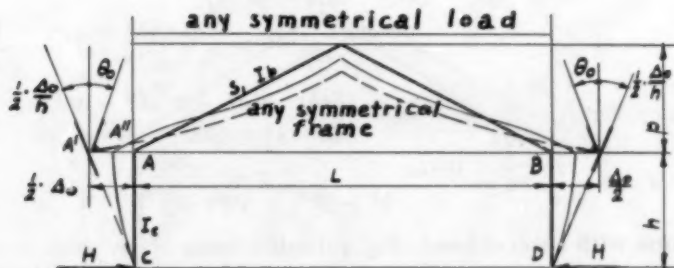

Fig. 18.
**Symmetrical Frame with Symmetrical Load.**—With the load functions and elastic constants calculated from (23), statically-indeterminate bending moments can now be obtained by setting out the equations of equilibrium of angular deformations of the joints. For a symmetrical frame of any shape with symmetrical loading (Fig. 18) the angular gaps at A and B are  $\left(\theta_0 + \frac{1}{2} \cdot \frac{\Delta_0}{h}\right)$ .
For a symmetrical pitched frame (Fig. 18) with uniformly-distributed load, the load functions from (24) are  $EI_b\theta_0 = \frac{1}{12}wL^2s$  and  $EI_b\Delta_0 = \frac{5}{48}wL^2ps$ , and the elastic constants from (25) are  $EI_b\alpha = \frac{2}{3}s$ ,  $EI_b\beta = \frac{1}{3}s$ ,  $EI_b\Delta^m = \frac{1}{6}ps$  and  $EI_b\gamma = EI_b\delta = \frac{1}{6}ps$ ,  $EI_b\Delta^h = \frac{2}{3}p^2s$ . Substituting these values in (27),